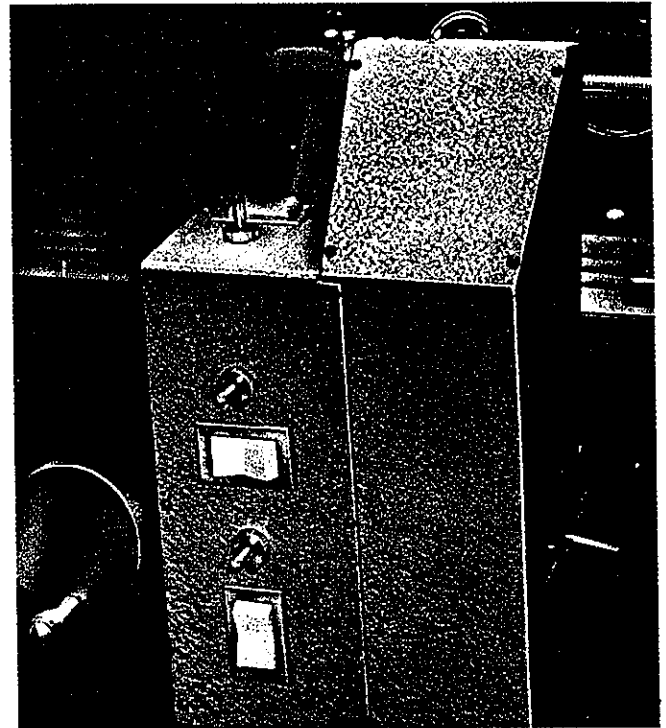

Figure 5
2. The protractor rapid and slow travel switches are located on top of the lamphouse. (The toggle lever switch is the slow travel control). (Figure 5.)
3. The horizontal rapid and slow travel switches are paired together on the front (operator), top side of the lamphouse. (The toggle lever switch is the slow travel control.) (Figure 5.)
4. The pair of switches below the two horizontal switches controls the vertical travel of the stage. (The toggle lever switch is the slow travel control.) (Figure 5.)